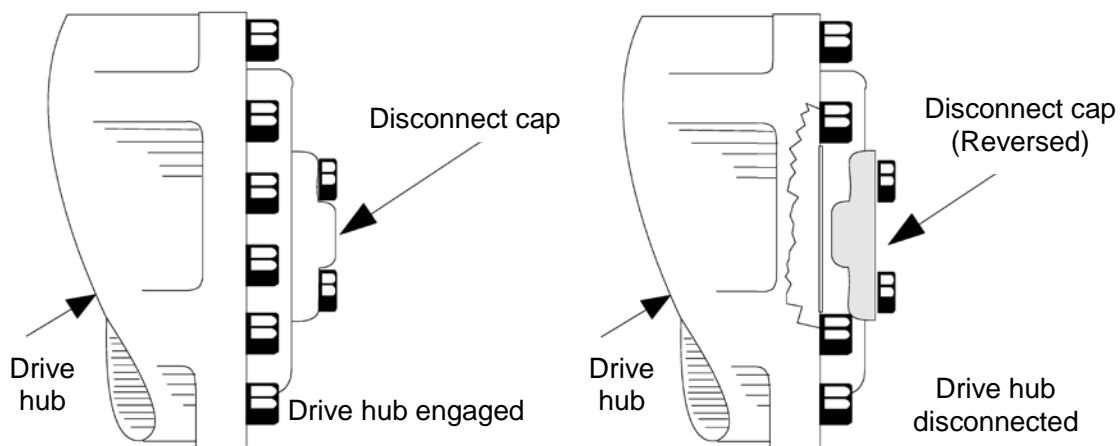

Figure 5-6 Disengage the Drive Hub
- 2) Disconnect drive hubs by inverting disconnect cap. (See Figure 5-6.) After towing the machine, complete the following:
- 3) Reconnect drive hubs by inverting disconnect cap. (See Figure 5-6.)